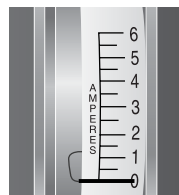

Figure 12. Ammeter Indicates Battery Is Fully Charged
You can also check the charge by the ammeter which is visible on the rear electronics module. The battery charger must be plugged into a wall outlet to obtain a reading. When the amperage reading is at or near zero (0) amps, the battery charging is complete. See figure 12.